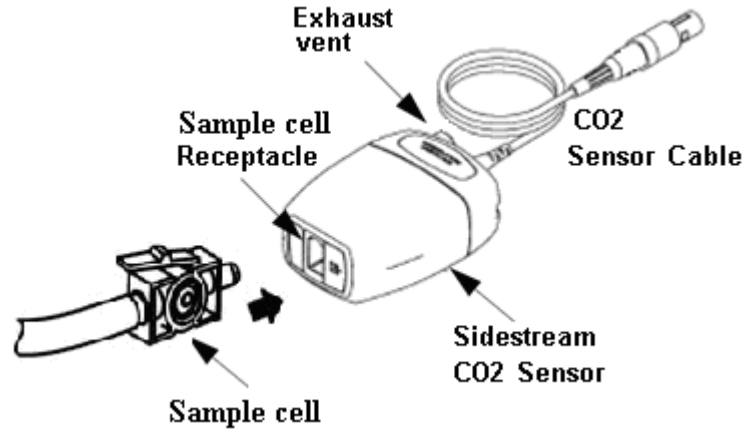

Figure 3.3 Demonstration for Sidestream CO₂ Sensor Connection
2. The sample cell of the sampling cannula must be inserted into the sample cell receptacle of the CO₂ Sensor as shown in Figure 3.3. A “click” will be heard when the sample cell is properly inserted. Then connect to airway tube. After finishing sensor connection, and make sure that the air input end is exposed to room air and away from all sources of CO₂, including the ventilator, the patient’s breath and your own. Next, turn on the CO₂ switch at CO₂ Setup Screen and then wait 2 minutes for the sensor warm-up.